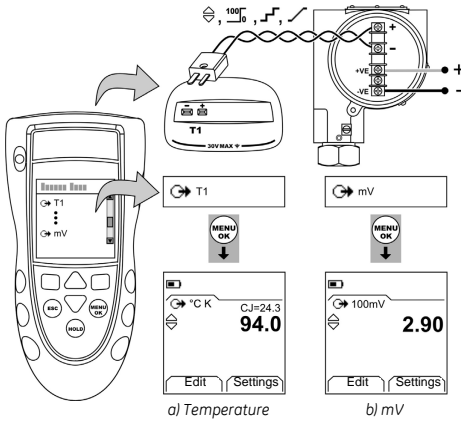

Figure 2: Example configuration - To simulate the temperature or mV values of a thermocouple
1. Connect the instrument (Figure 2) and, if necessary, adjust the Set Up (Table 1).
- mV output = Figure 2